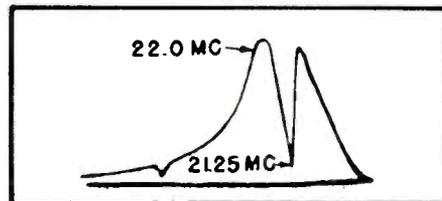

Fig. 4 Typical tuner response curve of overall tuner measured at grid of first i-f tube.
*R-F Alignment.* After connecting the scope to the terminal on top of the tuner chassis, adjust L11, C10 and L13 for proper curve shape of channel 13, as shown in Fig. 4.
C9 and C22 for channel 7, C13 for channel 6. Observe response of channels 2 to 6 on scope, and adjust C9, C13, and C22 for best compromise (see Fig. 4). Now do the same for channels 7 to 13, readjusting C10, L11, and L13.